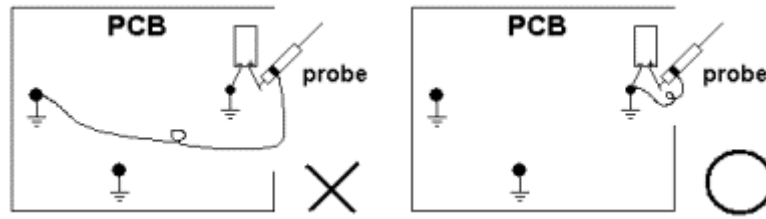

Figure 15. Correct measurement for transient response
- Suitable measurement taken as in figure 15.